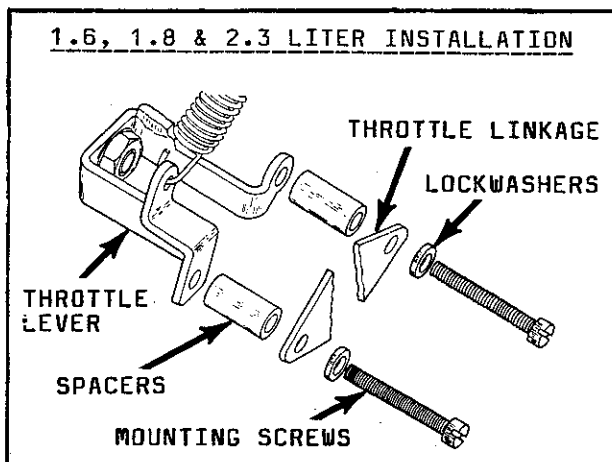
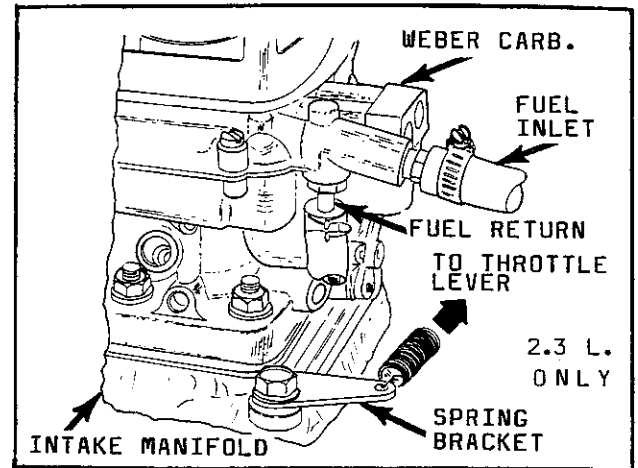

Figure 3
Figure 4
NOTE: On 1.6, 1.8 and 2.3 liter vehicles install the linkage with spacers supplied, as shown in figure 3. On 2.0 liter vehicles, no spacers are used and linkage connects directly to the throttle lever.
NOTE: On 1.6, 1.8 & 2.0 liter engines, the spring is connected to the stock return spring bracket (Fig. 3). On 2.3 liter engines the return spring is connected to a bracket, supplied in kit, which is secured by a bolt near the left rear of the intake manifold as shown in figure 4.
21. Connect fuel supply and fuel return lines. See figure 4.